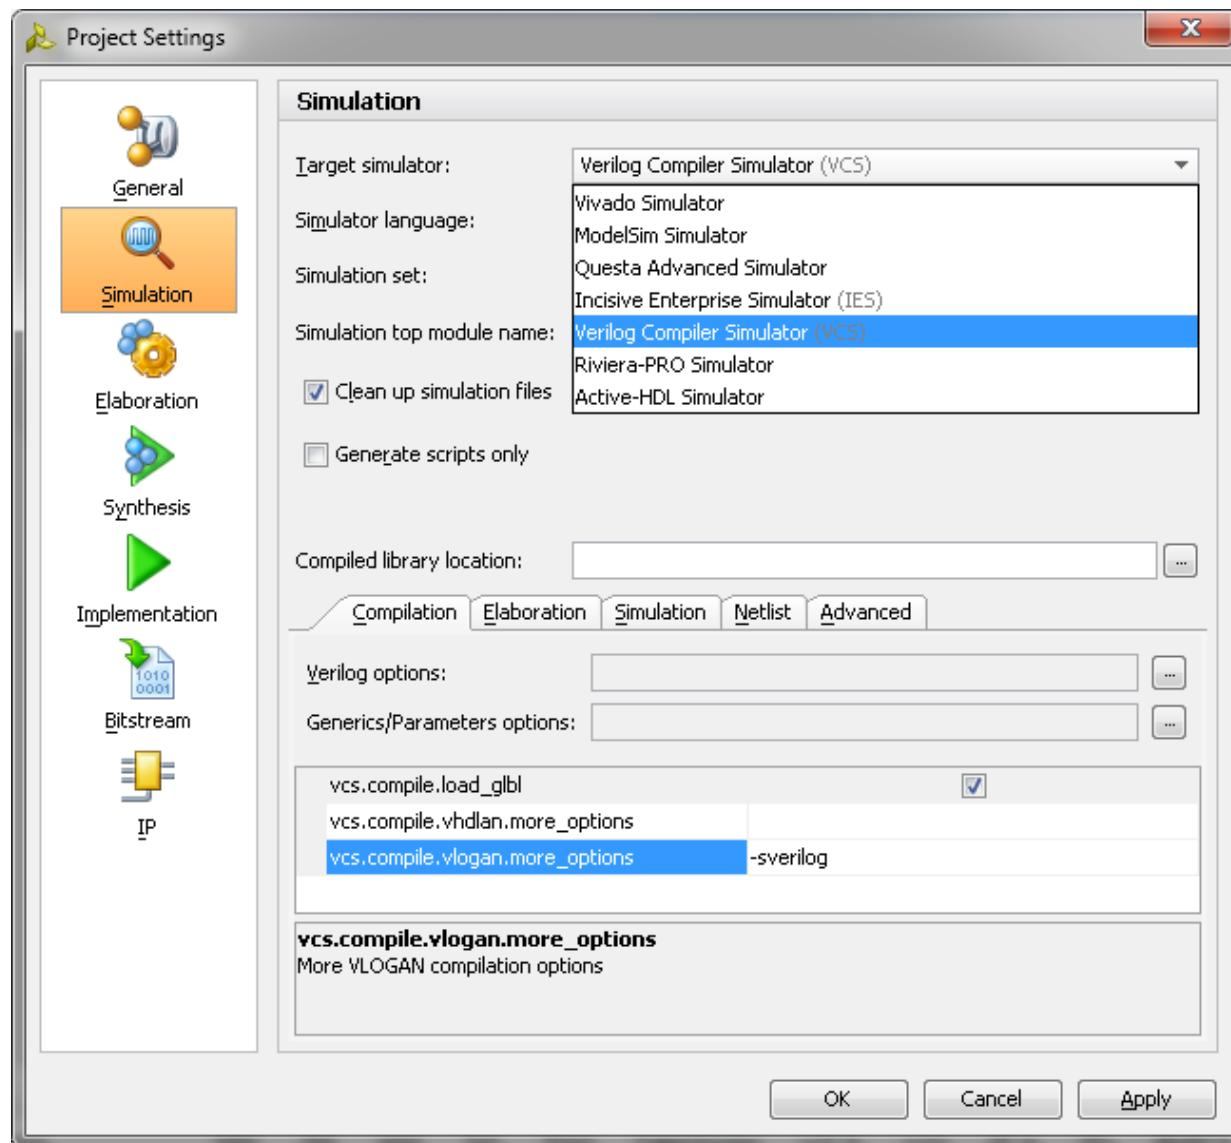

Figure 3-67: Simulation with VCS
- c. Under the **Simulation** tab, set the `vcs.simulate.runtime` to 1 ms (there are simulation RTL directives which stop the simulation after a certain period of time which is less than 1 ms) as shown in Figure 3-67.